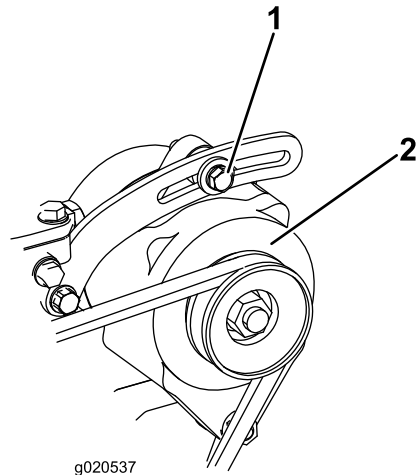

Figure 74
2. If the deflection is not 10 mm (3/8 inch), loosen the alternator mounting bolts (Figure 74).